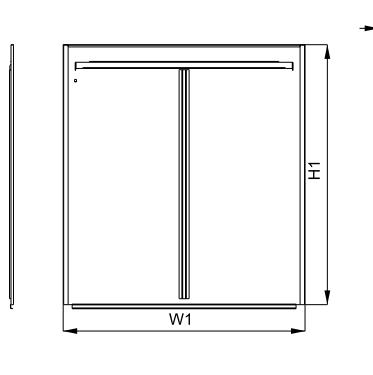

Figure 1 – Side panel upper section
2.5 The overall dimensions of the panel are shown in Figures 1–2 and Table 2.